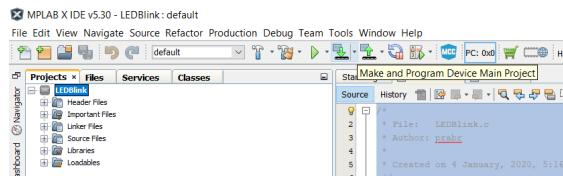

Fig. 7.3
3. Connect the flash programmer to the target board. (Ex. ICSP header in PicKit4.). Supply the power to the target board and click Make and Program Device Main Project. (Refer Fig. 7.3)